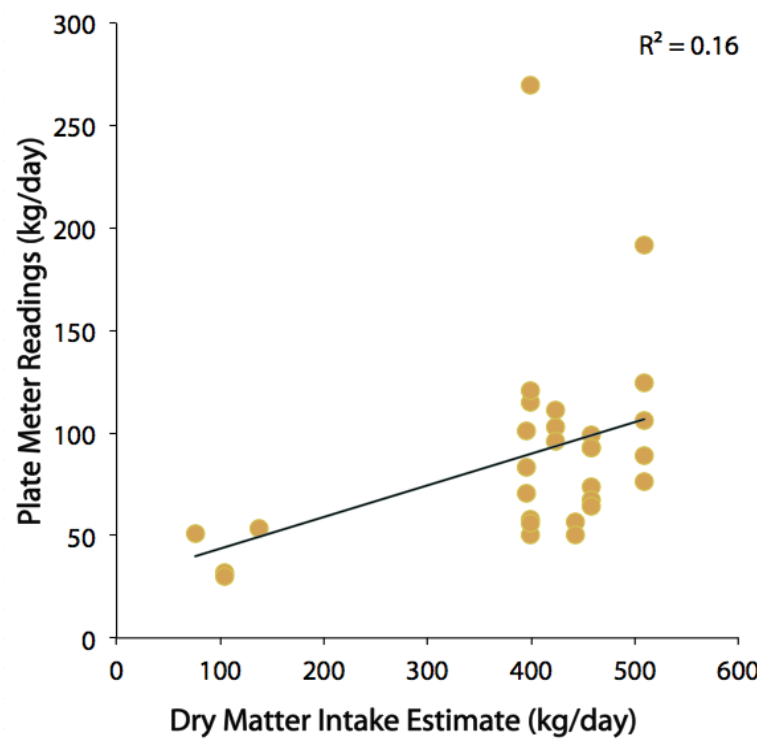

Figure 2. Correlation between the rising plate meter reading and daily forage estimates from animal units x 30 lb dry matter.
- The rising plate meter consistently underestimated the amount of daily forage consumed when compared to estimates based on animal units consuming 30 lb dry matter (**Figure 2**).